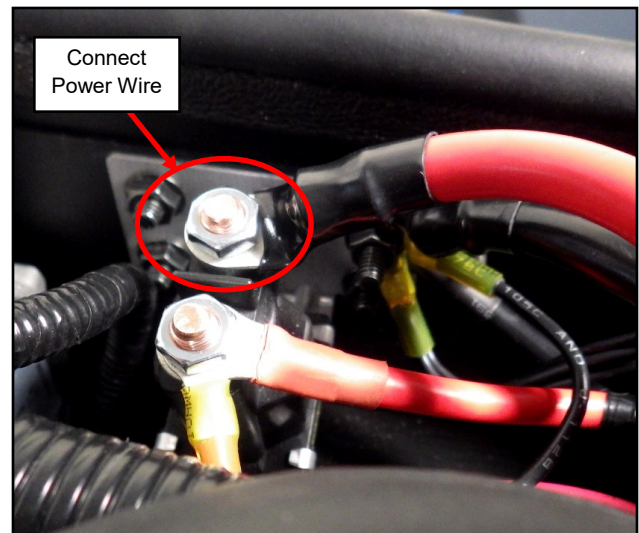

Fig. 1.5 (Connect power wire to A/C Unit)
- 1.5 Install the red power wire found on the A/C Power Supply Wire Harness onto the empty post found on top of the solenoid per fig 1.5.